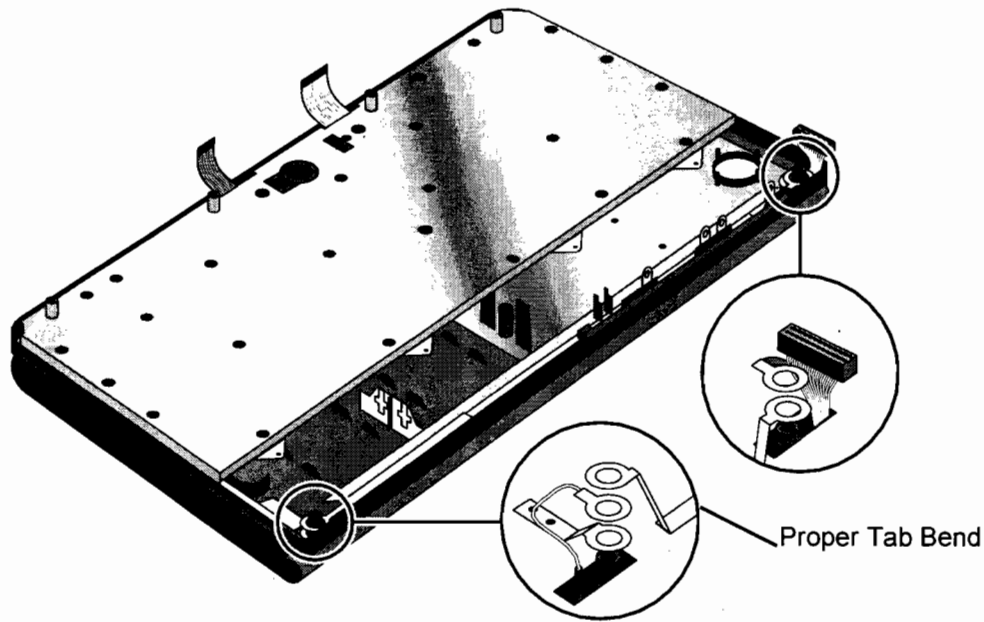

Figure 16 - Display Grounding Eyelets
2. Replace the grounding eyelets over the display posts (see Figure 16). **Use caution when replacing the grounding eyelets, as they can be broken off easily. If this happens, the assembly must be replaced.**